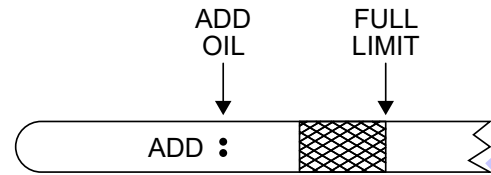

Figure 23. Engine Oil Level
5. Determine if engine oil is low. Oil should be between the upper and lower marks (Figure 23) on the dipstick.